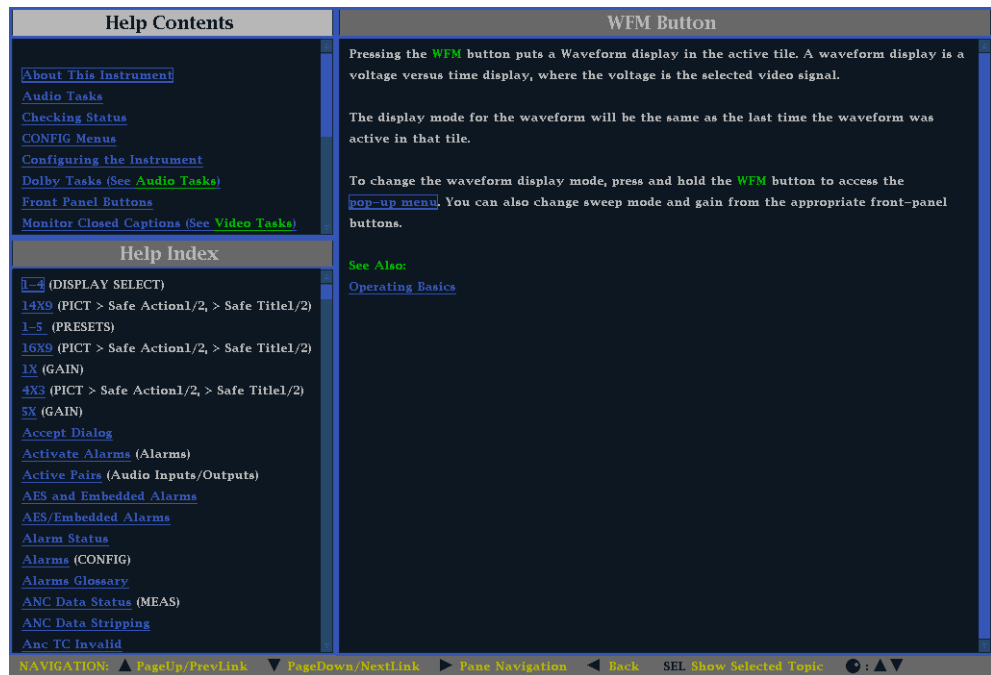

Figure 2: Instrument online help
- Navigable. The Contents and Topic Selector panes, with links within the topics, provide access to topics. (See Figure 2 on page 14.)